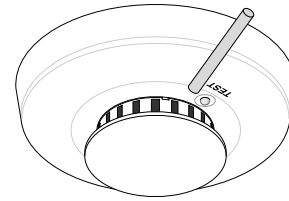

Figure 6. Testing the detector
1. Hold the test magnet up to the raised TEST letters on the top of the detector for 2 seconds. See Figure 6. Once the test starts, the alarm LED flashes one to nine times.